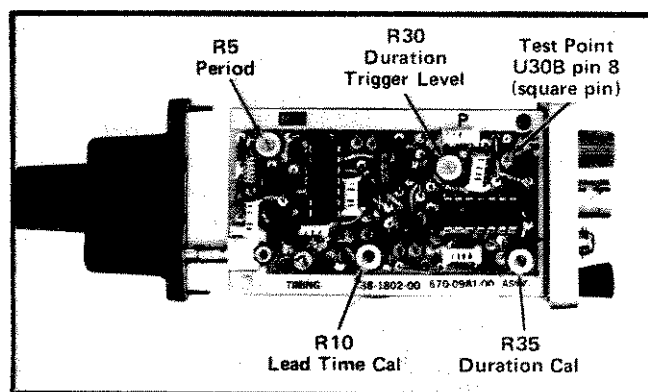

Fig. 5-7. Timing board, on the instrument left side, showing the location of internal controls.
1. Adjust Duration Trigger Level (R30) ❶
a. Connect the Trigger Out connector on the Type 285 through a BSM to BNC 50 Ω coaxial cable, and a 50 Ω feedthrough termination to the 7B50 Ext Trig In. Connect the Type S-54 PRETRIG OUT through a BSM to BNC coaxial cable, and a 50 Ω feedthrough termination to the 7A12 CH 1 connector. Connect the 10X probe to the 7A12 CH 2, and connect the probe tip to the square pin test point or U30B pin 8. See Fig. 5-7. Connect the probe ground lead to the Timing board ground.